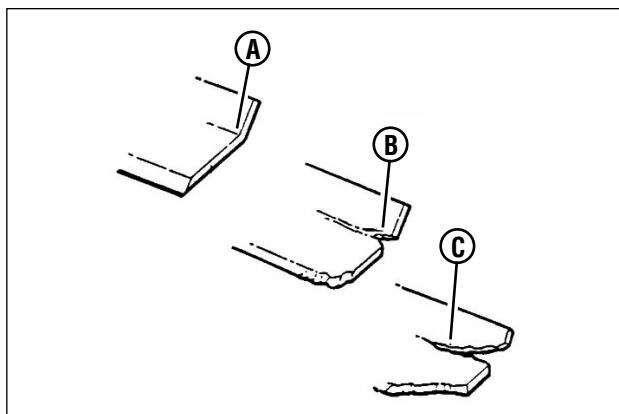

Figure 15: Mower blade wear limits
1. Inspect the blade (**Figure 15**) frequently for signs of excessive wear or damage:
- (A) New blade
- (B) Wear limit (notch starts)
- (C) Dangerous condition! Do not use on the mower! Replace with a new blade.